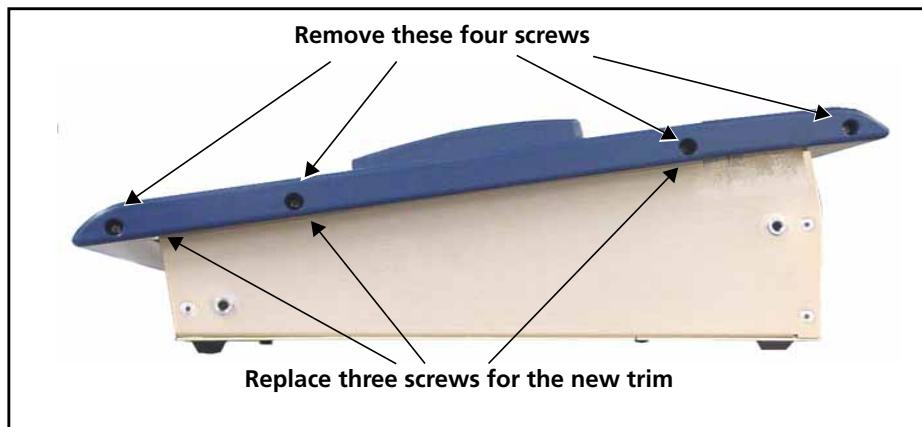

Figure 2-3 Removal of Trim
- 1 Remove the four screws on each side of the main control panel trim (see Figure 2-3).
Note: The main and audio control panels can be mounted in a rack with or without the outer trim attached. However, the outer trim will use an additional 1RU of extra space above and below the unit if it is left attached. If you choose to remove the trim, ensure that you replace the two middle screws found on each side (see Figure 2-3 on page 12).